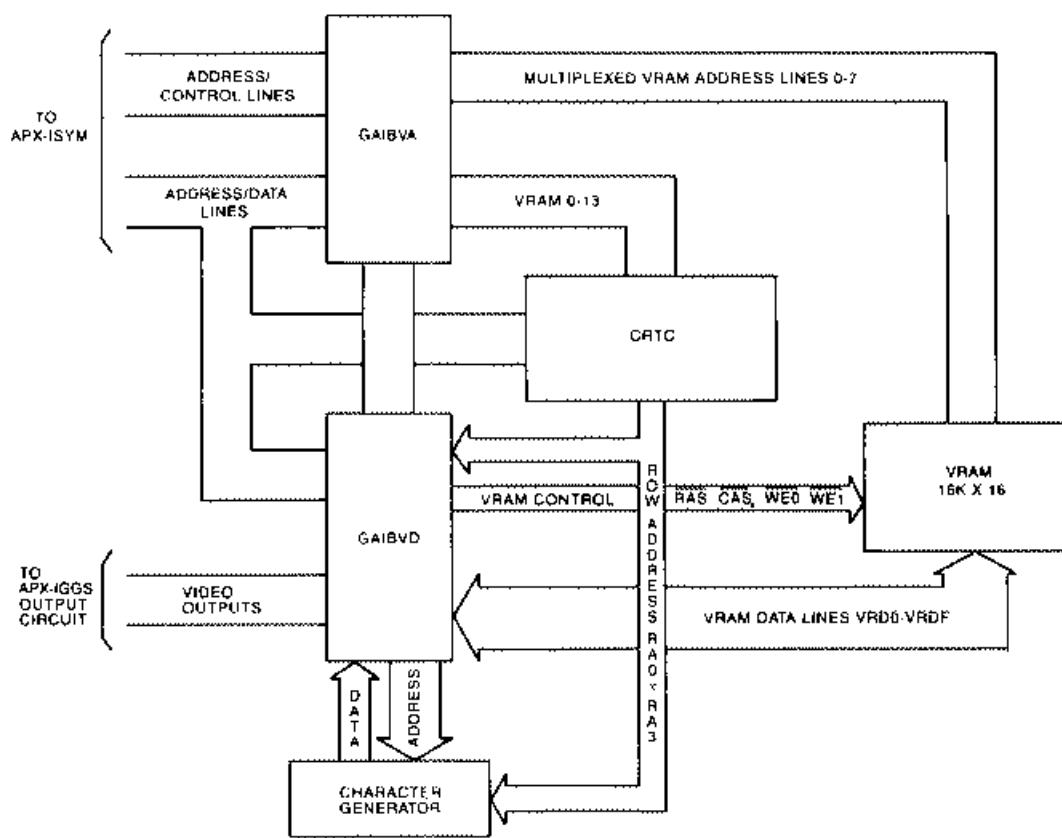

FIGURE 2-83. APX-ICRT BLOCK DIAGRAM
2.5.1 APX-ICRT Overview (Figure 2-83)
Figure 2-83 diagrams the connection of the VRAMs to the QX-16 system bus via the GAIBVA at 2D and the GAIBVD at 2F. The VRAMs are organized as 16K x 16 bits; the 16 bits of output data are input to the GAIBVD gate array for conversion to the video signal. VRAM memory is separate from the 512K system memory, and the devices used on the APX-ICRT board are different from those used on either the APX-ISYM or APX-IGGS boards.